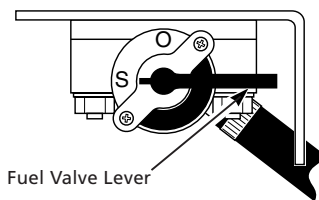

Figure 24 - Fuel Valve Lever In "S" Position
5. Turn fuel valve lever off. Do this by moving valve lever to the "S" position (See Figure 24, page 15).